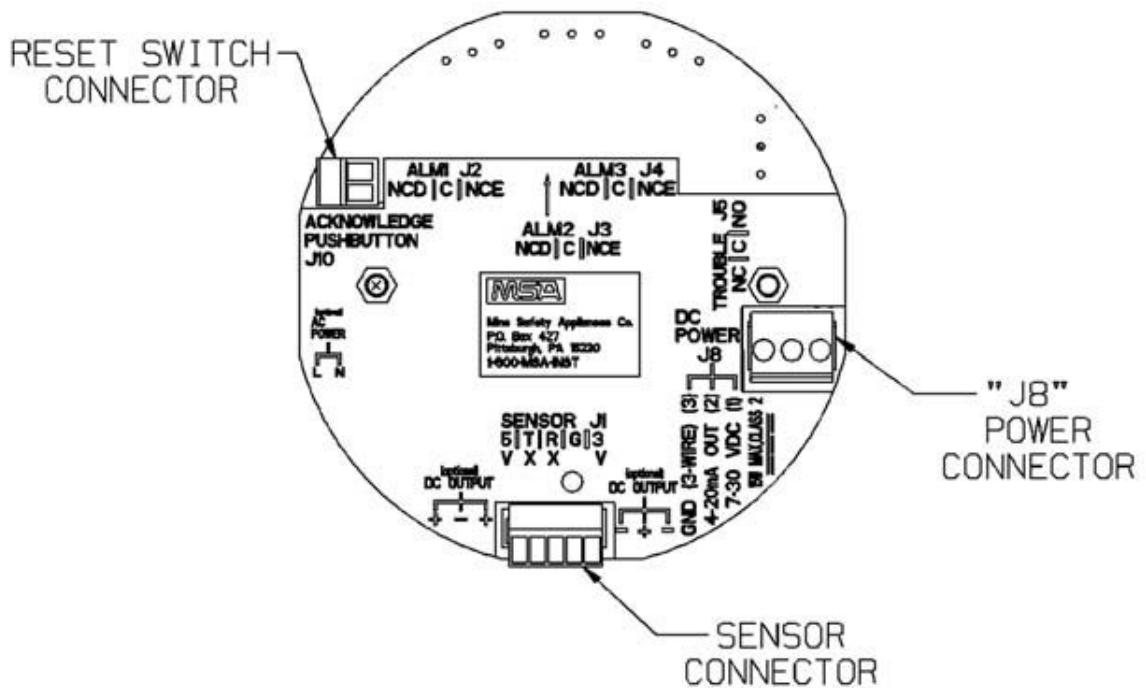

Fig. 14 Two-Wire Printed Circuit Board (no HART Protocol)
- (1) Connect 8-30 VDC power lead to J8-1 (see Fig. 14)
- (2) Connect J8-2 to the 4-20 mA output on the remote system.
- (3) Connect the sensor module to main pc board connector J-1.
- (4) Assemble lid on the enclosure.